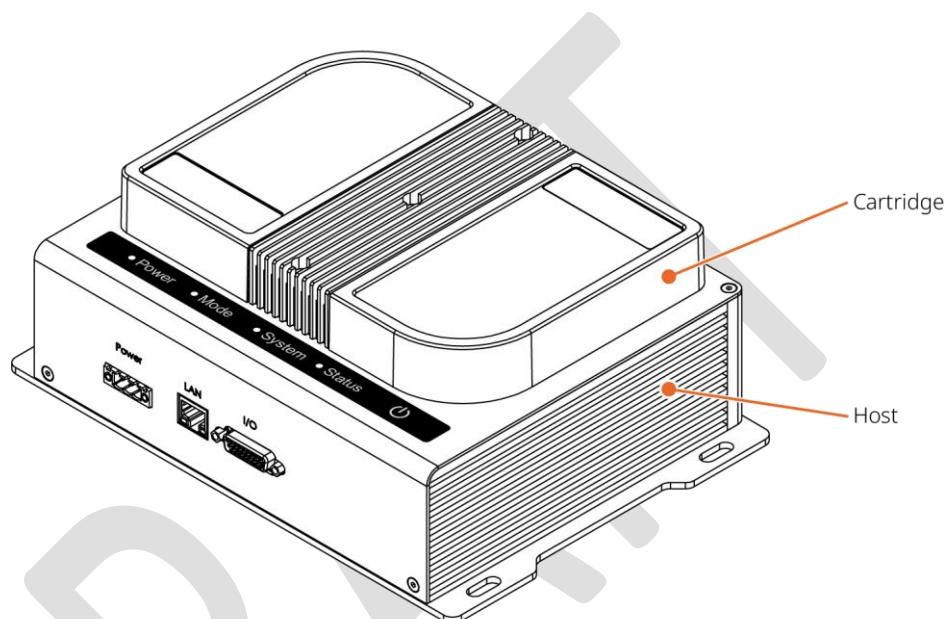
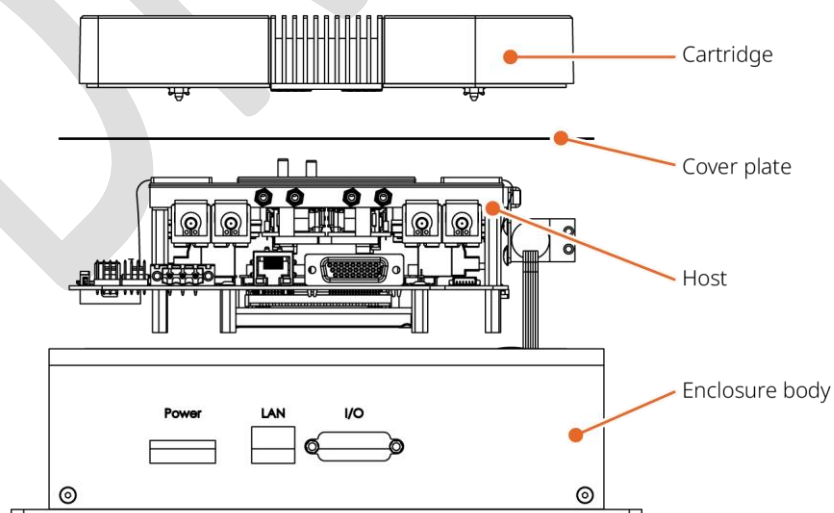

Figure 10. Naming conventions of the DynamiQ-S.
Figure 11. Exploded view of the DynamiQ-S.
The DynamiQ-S micro-GC analyzer is a small microchip-based gas analyzer for fast analysis of gaseous samples based on gas chromatography (GC). The naming conventions of the DynamiQ-S are given in Figure 10. The DynamiQ-S consists of two main parts: the host and the cartridge, see Figure 11 for an exploded view of the DynamiQ-S. The cartridge contains all core GC hardware (injector, column, detector, and heaters). The host facilitates fluidic and electronic connections and contains the pneumatic and electronic control functionality. The parts are discussed in more detail in the subsequent sections. Normally, the DynamiQ-S instrument is wall mounted with all gas and electrical connections directed downwards, however it can also be mounted on a flat surface.